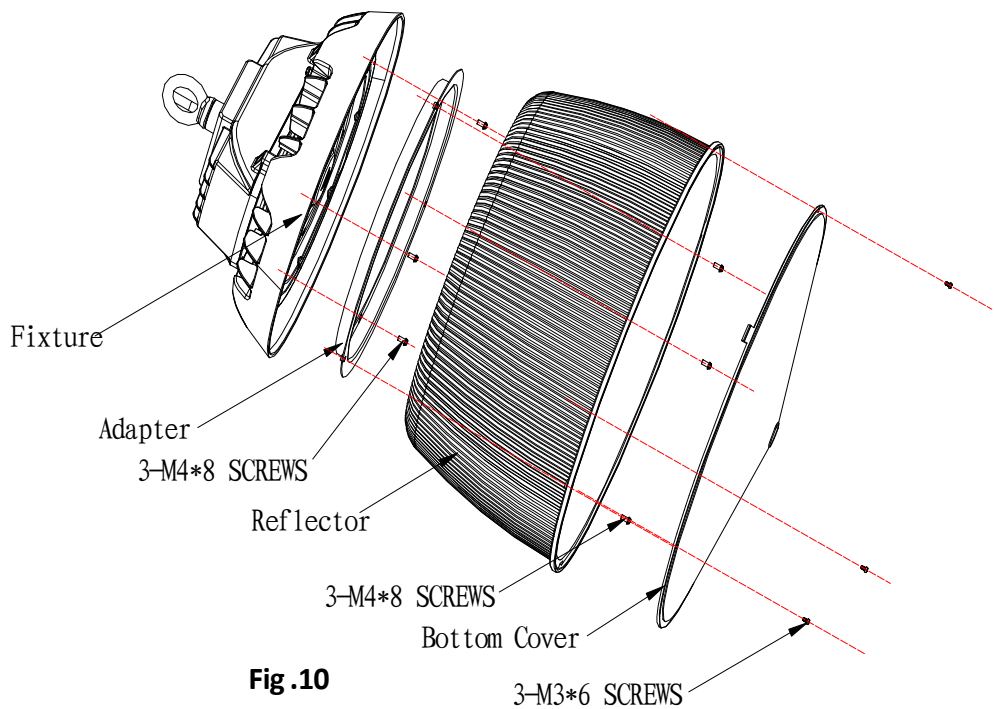

Fig.10
2. Put the reflector on fixture, let the screws through the slots on reflector. Twist the reflector to block it and tighten the screws. See Fig. 10